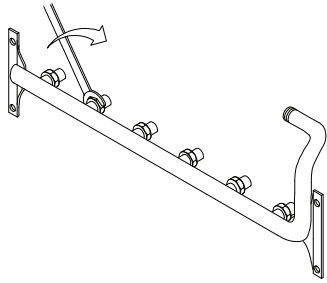

Fig. 2 – Remove Orifices
1. Remove the Propane (silver) orifices burner orifices from the manifold assembly and replace them with the Natural gas (typically black) furnished in the conversion kit or called out in Table 1. See Fig. 2.